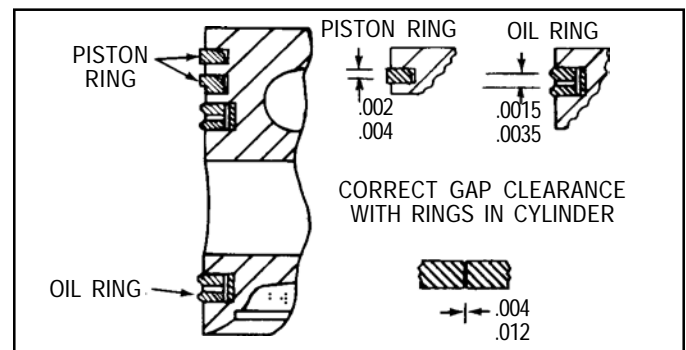

FIGURE 11 - CORRECT GROOVE CLEARANCE
Check the fit of the piston rings in the piston ring grooves. Check the ring gap with the rings installed in the cylinder bores. Refer to Figure 11 for correct gap and groove clearances.
- Install the piston rings in the correct location with the ring pipemarks up. (Refer to Figure 11) Stagger the position of the ring gaps.